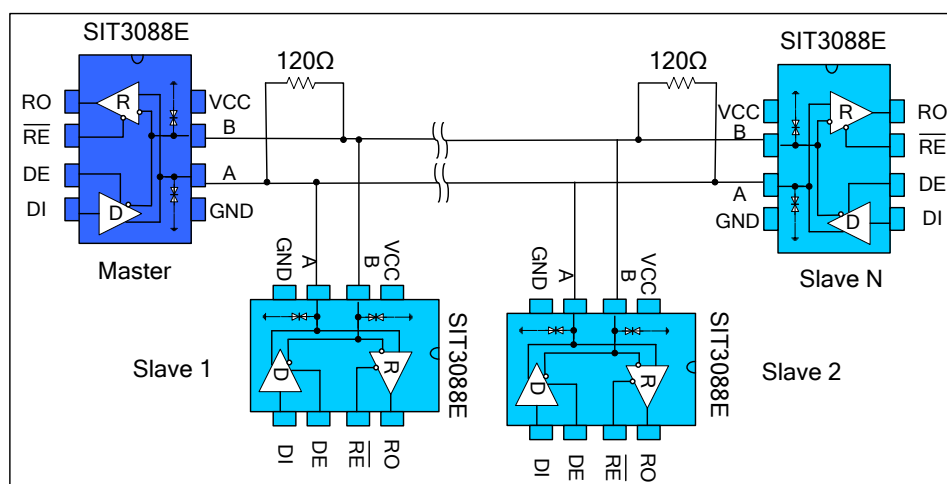

Figure 9 Bus type RS485 half-duplex communication network
4.1 Bus Networking: SIT3088E RS485 transceiver is designed for bidirectional data communication on multi-point bus transmission line. Figure 9 shows a typical network application circuit. These devices can also be used as linear repeaters with cables longer than 4000 feet. In order to reduce reflection, terminal matching should be carried out at both ends of the transmission line with its characteristic impedance, and the length of branch lines outside the main line should be as short as possible.